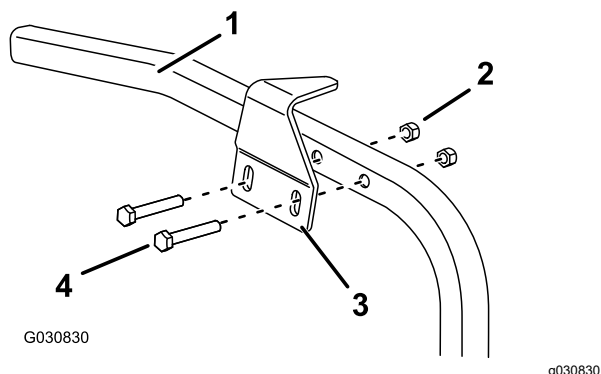

Figure 2
13. Install the latch bracket to the left frame member, directly below the lock assembly, in the existing holes, as shown in Figure 2.
14. Secure the latch bracket to the frame member with 2 bolts (5/16 x 2 inches) and 2 locknuts (5/16 inch) as shown in Figure 2.